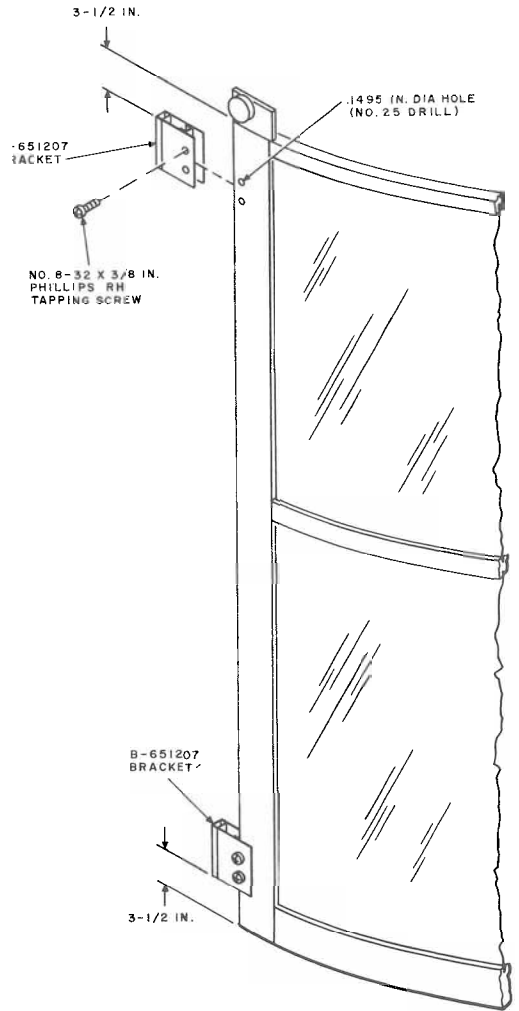

Fig. 12—Installation of Door Stop Kit
- (1) Remove color panel. Refer to 4.30.
- (2) Remove four No. 8-32 by 1/4 Pan Hd screws, four No. 8 lockwashers and the support assembly which supported the color panel.
- (3) Remove the existing door stop located at the back end of the upper door track.
- (4) With curved door closed, mount the two new stop brackets approximately as shown in Fig. 12.
- (5) Using stops as marking templates, mark locations for four mounting screw holes
- (6) Remove brackets and drill the four holes using a No. 25 drill
- (7) Secure brackets to door using four No. 8-32 by 3/8 Phillips Hd self-tapping screws (furnished).